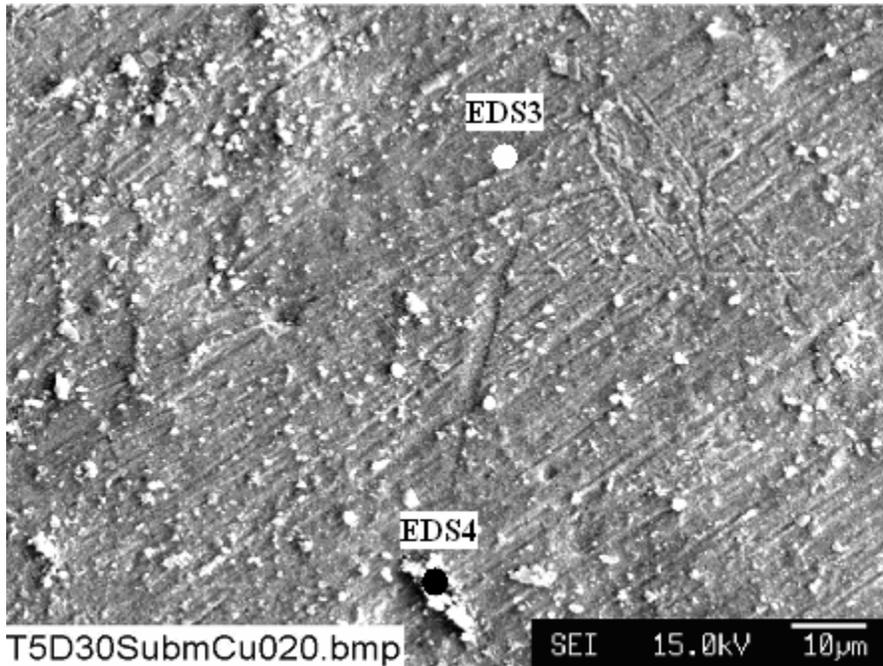
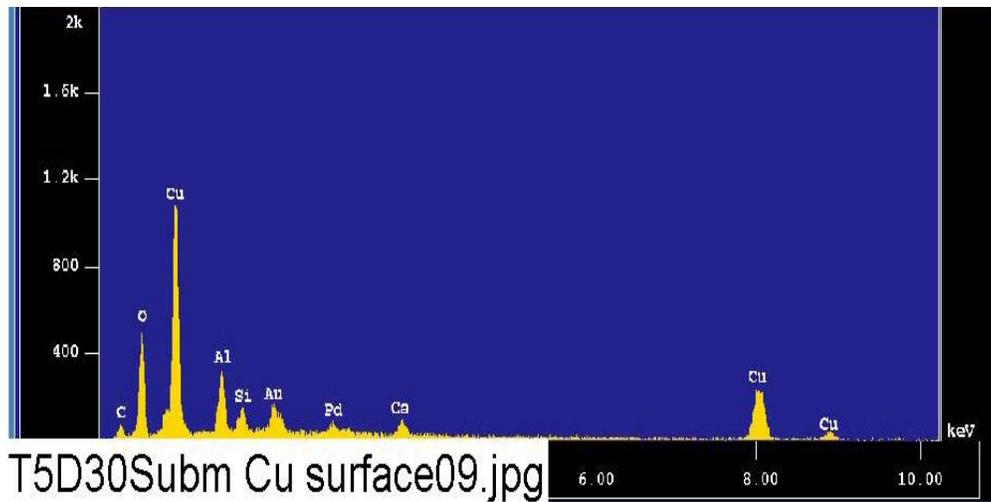

Figure E2-6. SEM image magnified 1000 times for a Test #5, Day-30 submerged copper coupon sample. (T5D30SubmCu020.bmp)
Figure E2-7. EDS counting spectrum for the grey copper coupon surface (EDS3) shown in Figure E2-6. (T5D30Subm Cu surface09.jpg)
- Figure E2-6. SEM image magnified 1000 times for a Test #5, Day-30 submerged copper coupon sample. (T5D30SubmCu020.bmp).....E2-10
- Figure E2-7. EDS counting spectrum for the grey copper coupon surface (EDS3) shown in Figure E2-6. (T5D30Subm Cu surface09.jpg)E2-11
- Figure E2-8. EDS counting spectrum for the light particles (EDS4) on the coupon surface shown in Figure E2-6. (T5D30Subm Cu particle10.jpg)E2-13
Table E2-3. Chemical Compositions for T5D30Subm Cu surface09.jpg, Figure E2-7	E2-12
Table E2-3. Chemical Compositions for T5D30Subm Cu surface09.jpg, Figure E2-7